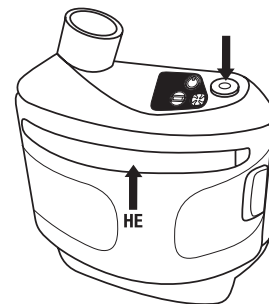

Fig. 11
- The HE filter label must be visible through the filter cover window (Fig. 11).
To turn on the TR-300 motor/blower, press the power button (Fig. 11) on the top of the motor/blower. The unit will perform a self diagnostic. The green power on (Fig. 12-1), amber low battery (Fig. 12-2) and red low flow (Fig. 12-3) LEDs will flash 2 to 3 times and alarms will sound during this time. To turn off the motor/blower, press and hold power button for 2 seconds.
- Ensure the HE filter is properly installed in the PAPR unit and that the cover latch is secure per these *User Instructions*. The HE filter label must be visible in the cover window (Fig. 11). The HE filter may be stored in place